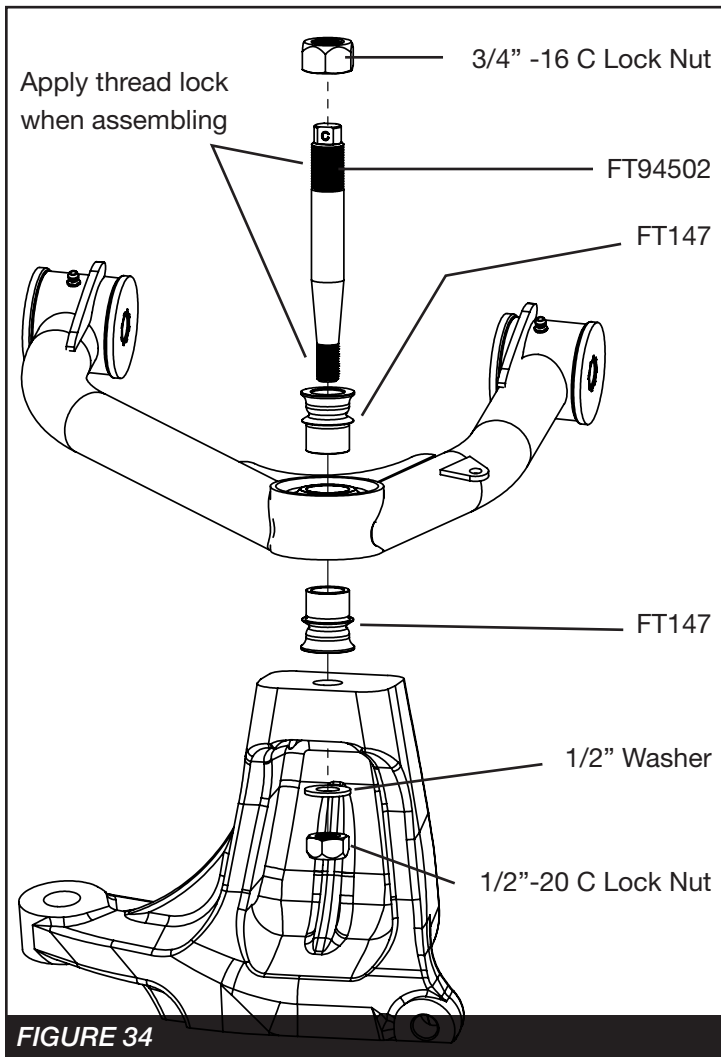

FIGURE 34
SEE FIGURE 34 FOR STEPS 35 - 39
42. Install the FTCLAMP on top of the spindle to hold the wheel speed sensor wire. **SEE FIGURE 34**